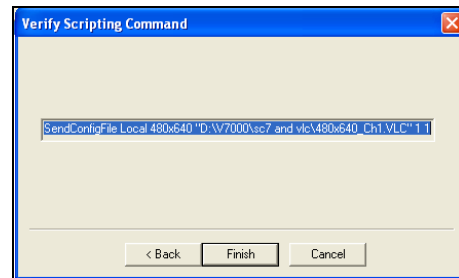

Figure 37: Verifying Scripting Command
10. The *Verify Scripting Command* window will appear. Visually confirm that the script is correct, then click the **Finish** button to create the scripting command and take you back to the *Edit Script* window. Refer to **Figure 37**.